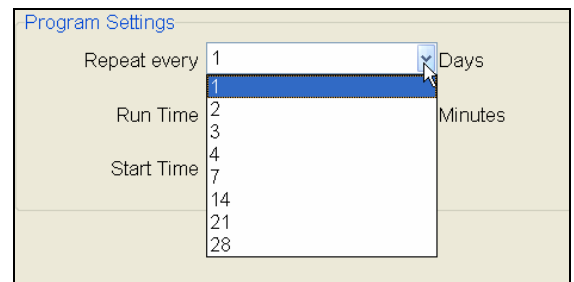

Figure 14.0.5
4. Click on the drop down arrow to the right of the **Repeat every** box to adjust the exercise days. This will allow you to select the day cycle at which the task takes place (Figure 14.0.5).